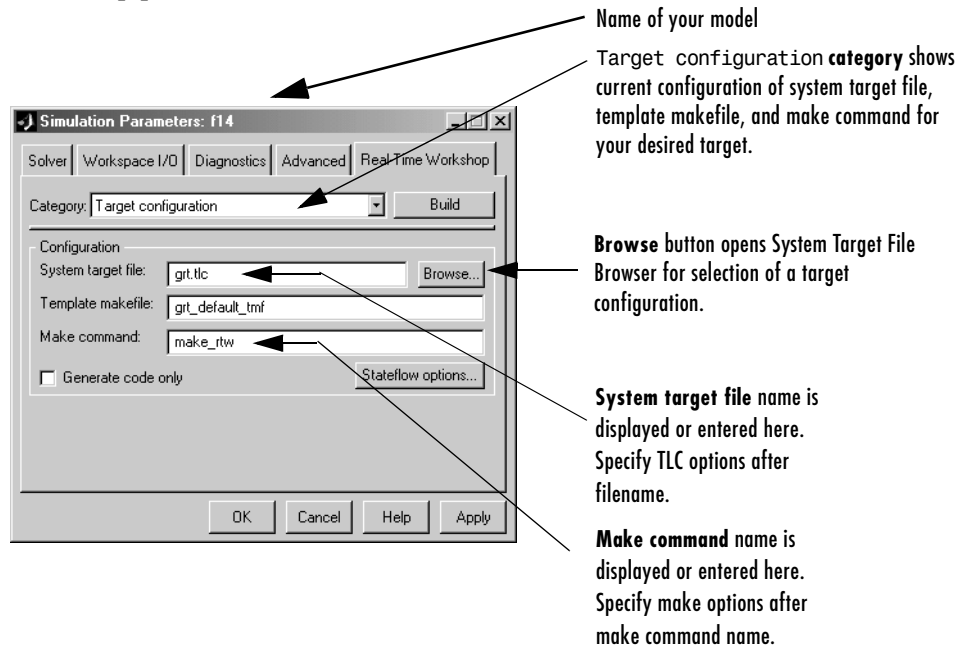

Figure 2-2: The Real-Time Workshop Pane: Target Configuration Options
Figure 2-2 shows the Target configuration options of the Real-Time Workshop pane.
- If you have selected a target configuration using the System Target File Browser, this field displays the name of an M-file that selects an appropriate template makefile for your development environment. For example, in Figure 2-2, the **Template makefile** field displays *grt_default_tmf*, indicating that the build process will invoke *grt_default_tmf.m*. “Template Makefiles and Make Options” on page 2-54 gives a detailed description of the logic by which Real-Time Workshop selects a template makefile.